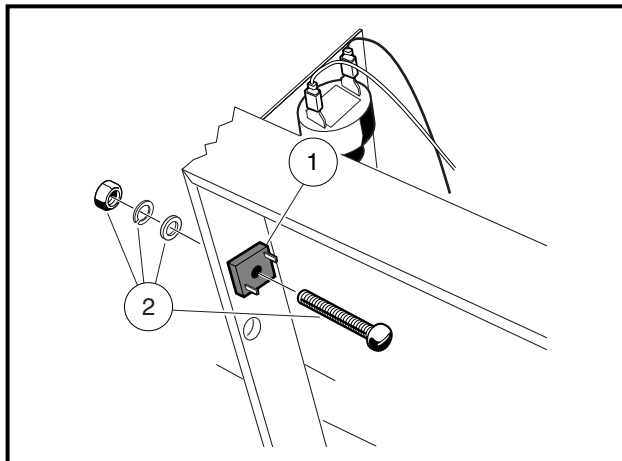

Figure 12-31 Voltage Limiter
4. Disconnect wires from the voltage limiter (1) (**Figure 12-31, Page 12-27**).
5. Remove the mounting hardware (2) from the voltage limiter and remove.
1. Mount the voltage limiter to the frame and tighten to 25 in-lb (2.8 N·m) (**Figure 12-31, Page 12-27**).